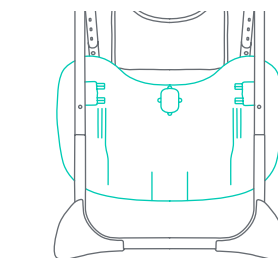

Fig. 18
- 18) • Hang the tray on the hooks located on the back of the rear leg (Fig. 18).